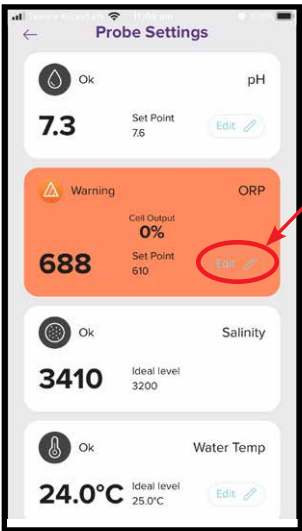

Figure 8.37
- In the probe setting menu, press “edit” (ref figure 8.37)